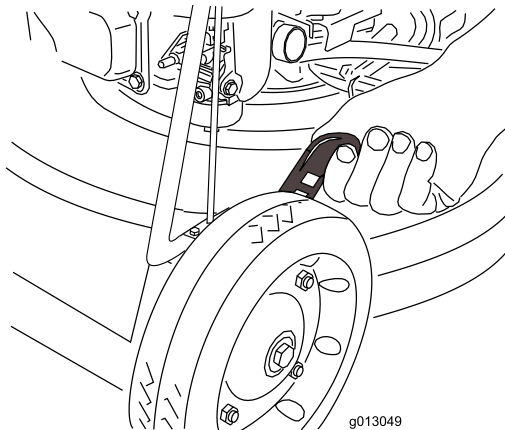

Figure 16
1. Pull the wheel height adjustment lever toward the wheel (Figure 16) and move it to the desired setting.